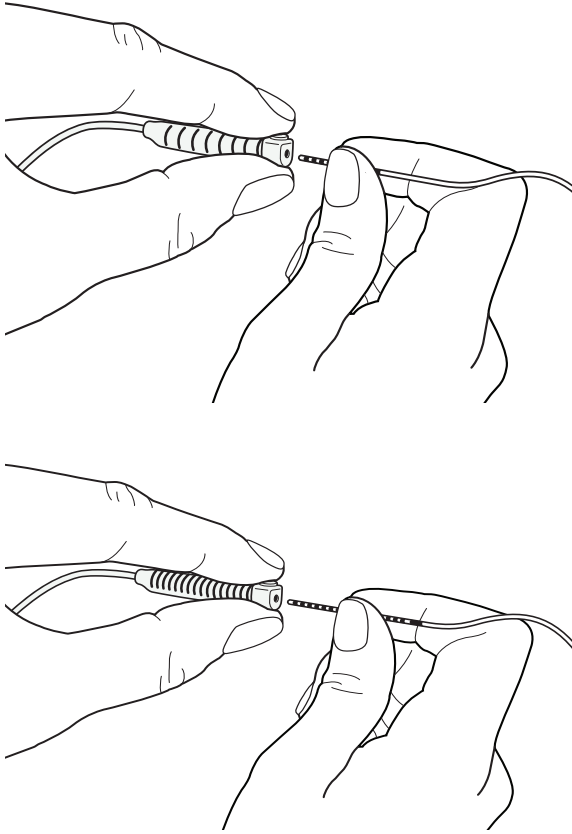

Figure 31. Grip the DBS Lead and the Setscrew of the Lead Extension Connector Prior to Insertion (8 and 16 Contact Leads Shown)
2. Grip the Lead Extension Connector at the Setscrew and begin insertion of the DBS Lead while holding the array (Figure 31).